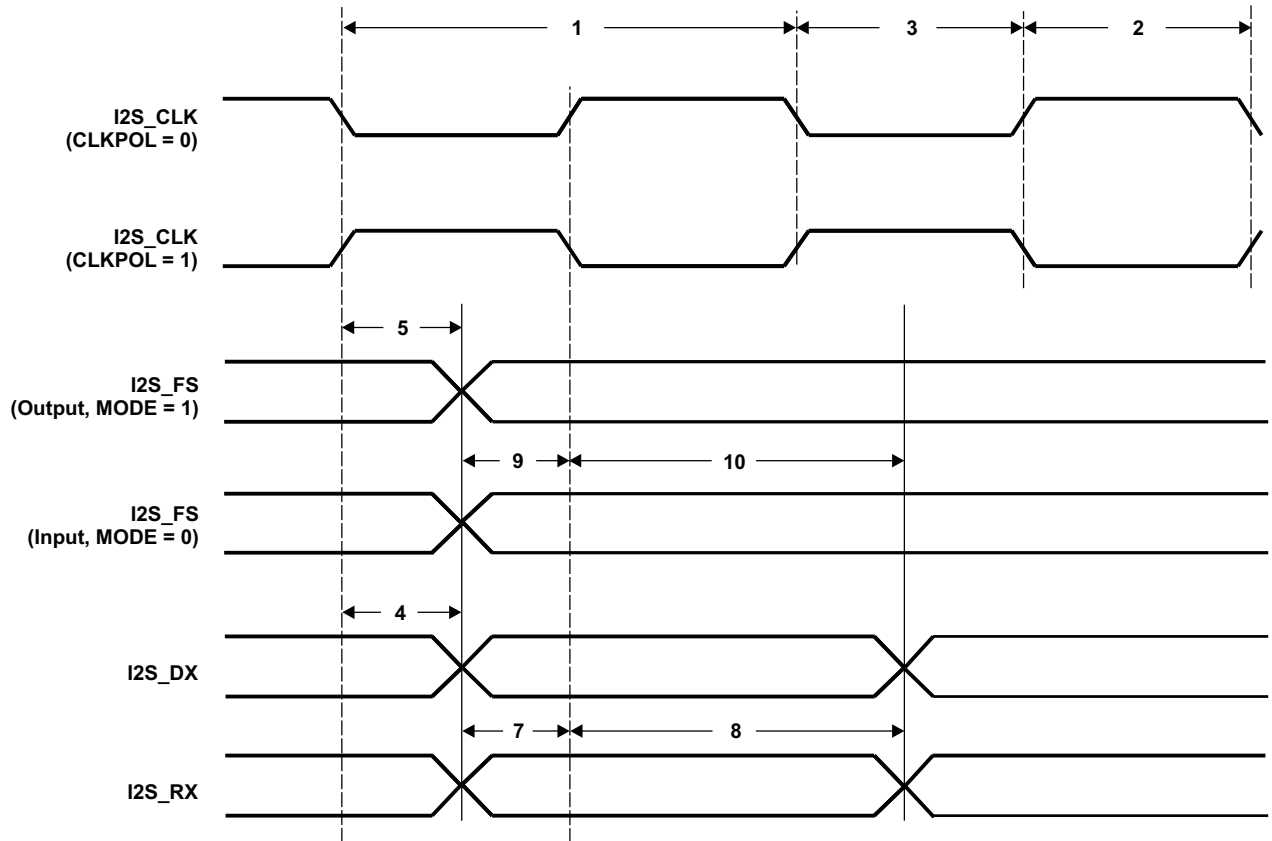

Figure 5-29. I2S Input and Output Timings
**Table 5-37. Timing Requirements for I2S [I/O = 3.3 V, 2.75 V, and 2.5 V](1) (see Figure 5-29)**
(1) P = SYSCLK period in ns. For example, when the CPU core is clocked at 100 MHz, use P = 10 ns.
(2) Use whichever value is greater.
(3) In Slave Mode, I2S\_FS is required to be latched on both edges of I2S input clock (I2S\_CLK).
**Table 5-38. Timing Requirements for I2S [I/O = 1.8 V](1) (see Figure 5-29)**
**[I/O = 3.3 V, 2.75 V, or 2.5 V] (see Figure 5-29)**
- (1) P = SYSCLK period in ns. For example, when the CPU core is clocked at 100 MHz, use P = 10 ns.
**Table 5-40. Switching Characteristics Over Recommended Operating Conditions for I2S Output [I/O = 1.8 V] (see Figure 5-29)**